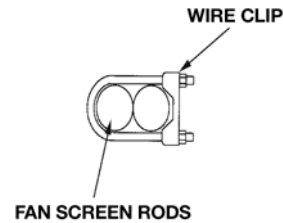
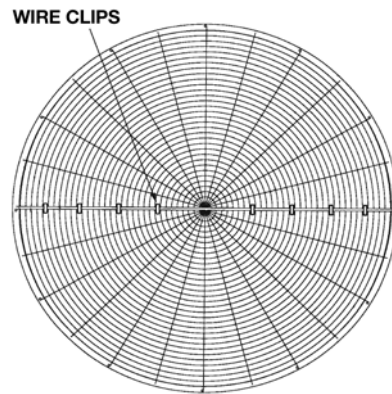

Figure 18 – Wire Clip Arrangement
Figure 19 – Wire Clip Spacing (12' Wide Models)
1. Lay both halves of the fan screen on the ground. Join the two screen halves with wire clips (Figure 18). There should be 4 wire clips on each side of the fan screen for 12' wide units and 5 wire clips for 14' wide units. Space the wire clips evenly across the radius of the fan screen as shown in Figure 19.